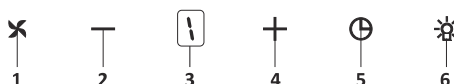

Fig. 16: 5 Spd Dig Button
1. ➤ Press this button to turn on the product. Fig. 16
2. ➤ Press this button to decrease the motor speed. Fig. 16
3. ➤ Dig display You can follow which speed the product is currently working on this display.Fig. 16
4. ➤ Press this button to increase the motor speed.Fig. 16
5. ➤ When timer button is pressed, a 15-minute timer function will be activated; display will give a signal once the timer starts and the motor will stop automatically after 15 minutes.Fig. 16
6. ➤ Press this button to turn on and off the lamp.Fig. 16